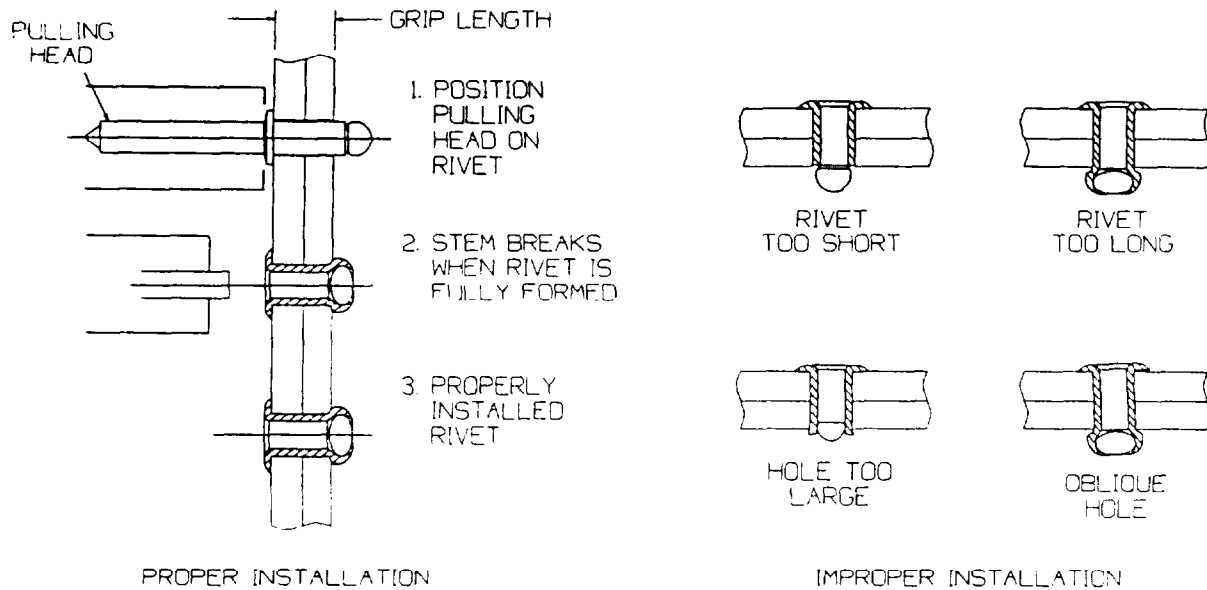

**Figure 4-3. Rivet Styles**
a. Blind Rivets. Blind rivets are used in locations where only one side of the area to be worked on is accessible. Blind pop rivets must be used in the shelter honey comb panels since the hammering required to install conventional rivets would damage the material. The types of rivets used in the shelter are shown in figure 4-3 and described in table 4-2. When installing floor patches, countersunk head rivets (styles K and T) are preferred, but dome head rivets (styles R and S) are an acceptable alternate. When installing interior wall patches, countersunk head rivets shall be used in any instance where dome head rivets will interfere with the installation of equipment. Closed end rivets (styles K and R) must be used for exterior repairs and floor repairs to prevent moisture and dirt from entering panels.